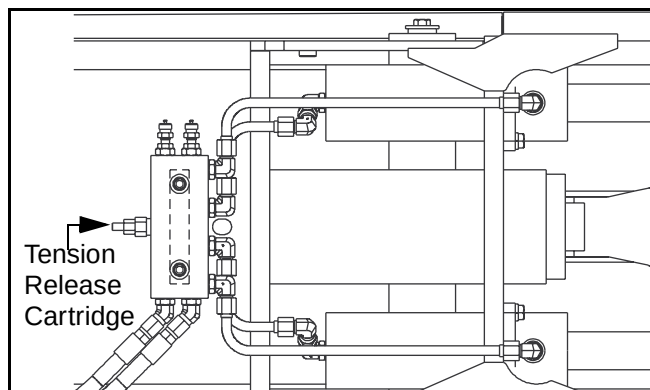

Figure 6 - 70 Release Rubber Track Tension
- 2) Loosen jam nut on tension release valve cartridge (Figure 6 - 70).